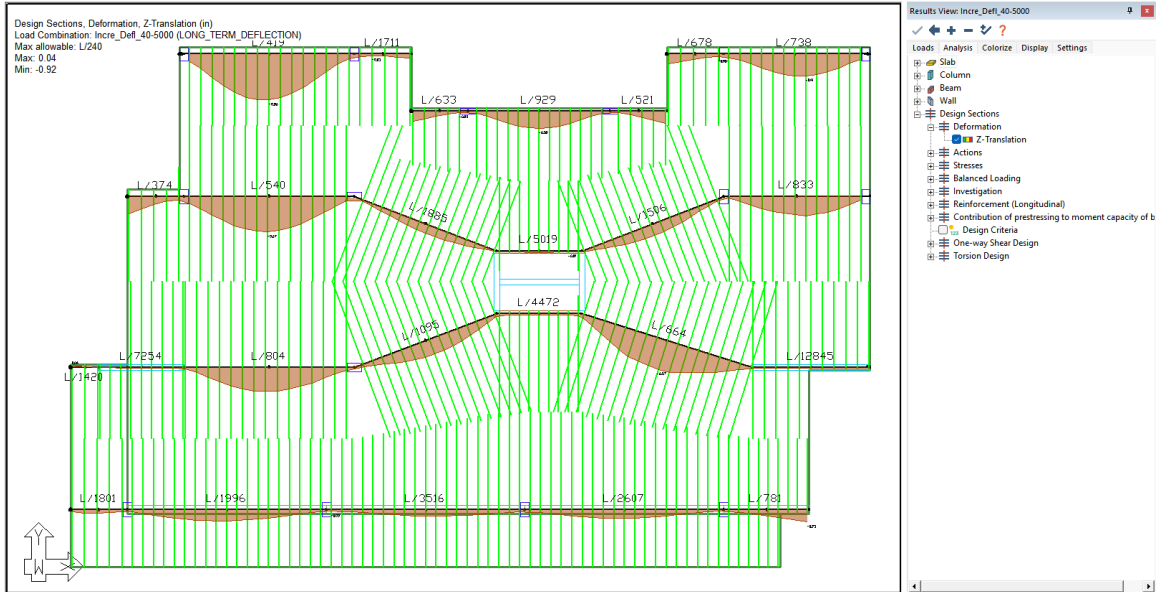

FIGURE 9-89
- Check the box next to **Z-Translation**. The screen should change to show the results of the deflection as well as the deflection to span ratio for each span along the support lines as shown in **FIGURE 9-89**.